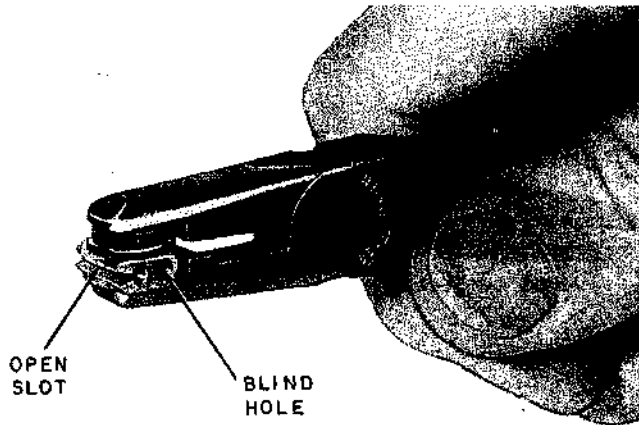

Fig. 3—UG SCOTCHLOK Connector in Presser Jaws
- (1) Place the connector in the jaws of the presser (Fig. 3) keeping just enough pressure on the connector to keep it from sliding out.